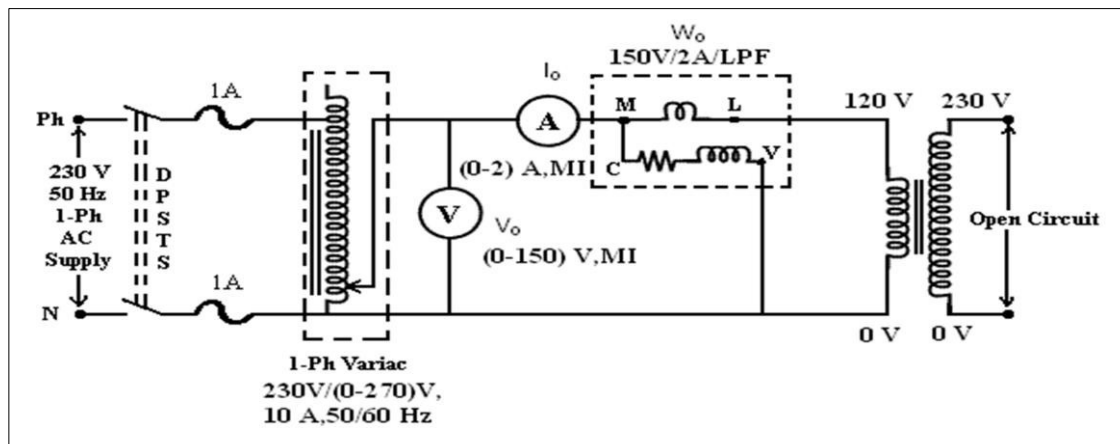

Fig 3.1: Circuit for open circuit test
1. Connect the circuit as per fig 3.1.